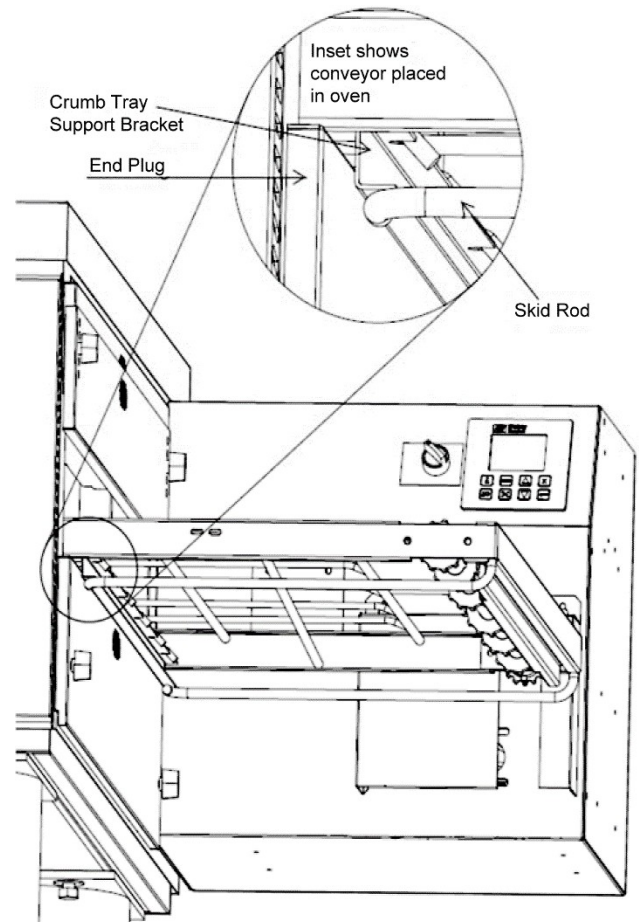

Figure 25. Secure Conveyor Frame
2. Continue moving the conveyor into the oven until the frame protrudes equally from each end of the oven. Check that the crumb tray supports located on the underside of the conveyor frame rest firmly against the lower end plugs, as shown in Figure 25.